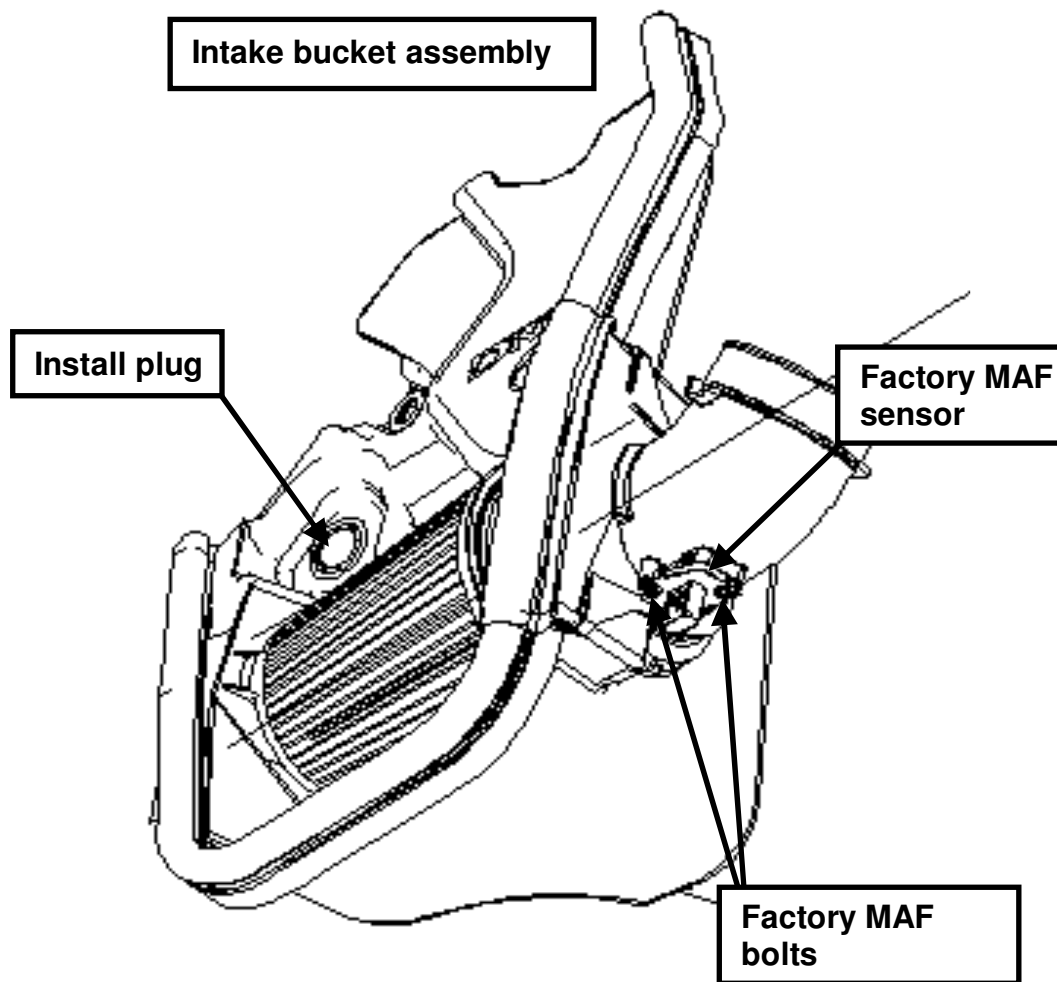

Fig. 4
STEP 1: Install the MAF sensor using the bolts Item #8 into the new air intake bucket assembly. Torque the bolts to 4 Nm (35 lb-in) (See Fig. 4).